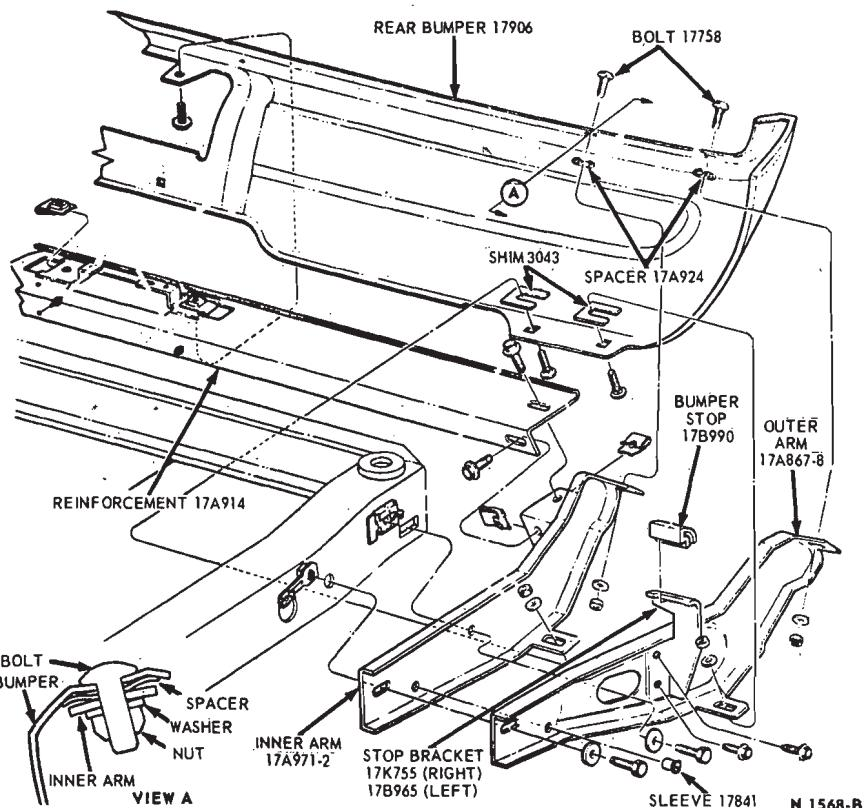

FIG. 4—Rear Bumper Installation—Mercury and Meteor Except Model 71
- Remove two bolts attaching the center of the bumper to the reinforcement (Figs. 4 and 5).
- Position the bumper arms and reinforcement to the bumper. Be sure the shims and spacers are as shown in Figs. 4 and 5.